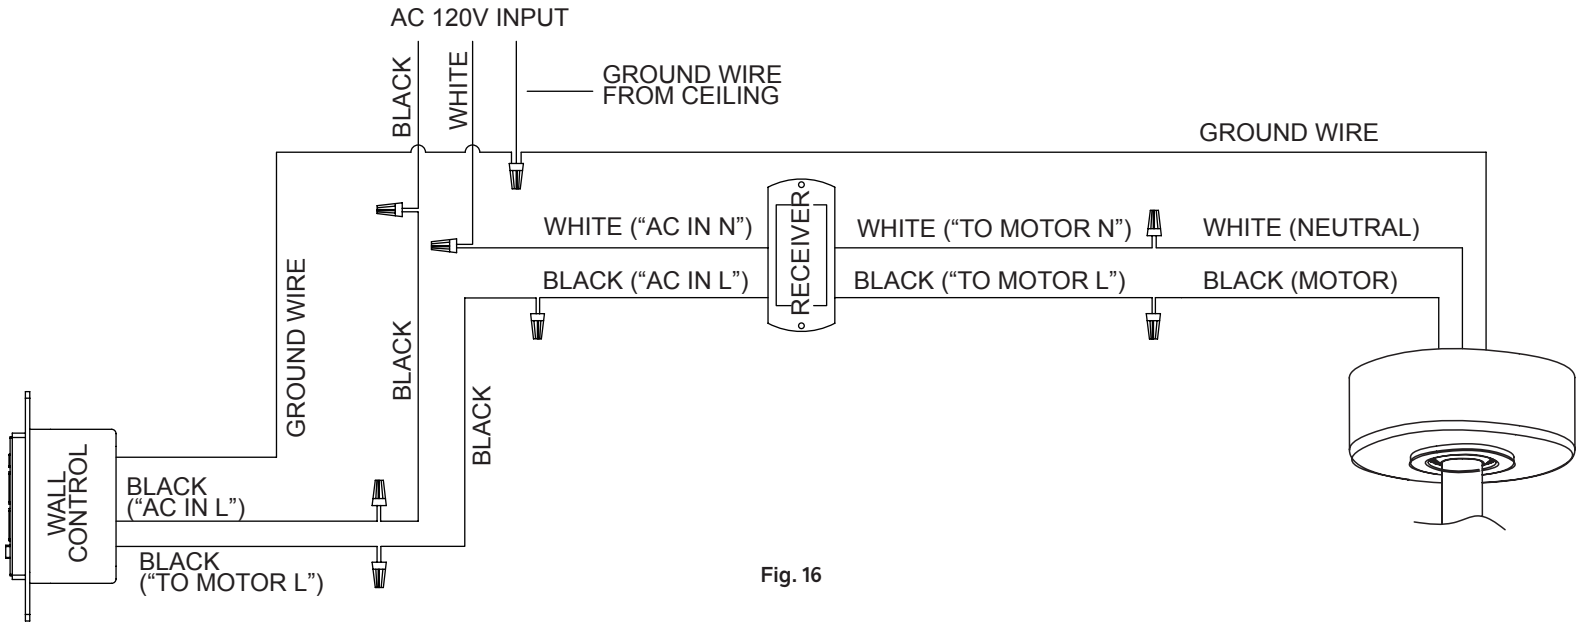

Fig. 16
Step 2. Connect wires using the connectors as shown in WIRE DIAGRAM. (Fig.16)